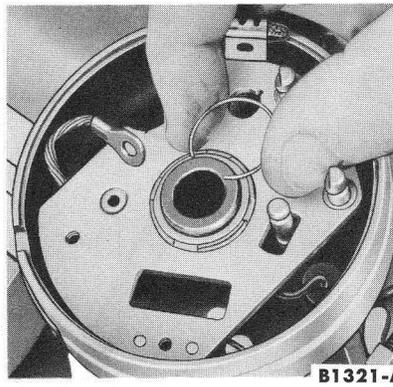

FIG. 11—Lock Ring Installation
4. Position the breaker plate in the body. Install the lock ring to secure the plate (Fig. 11).